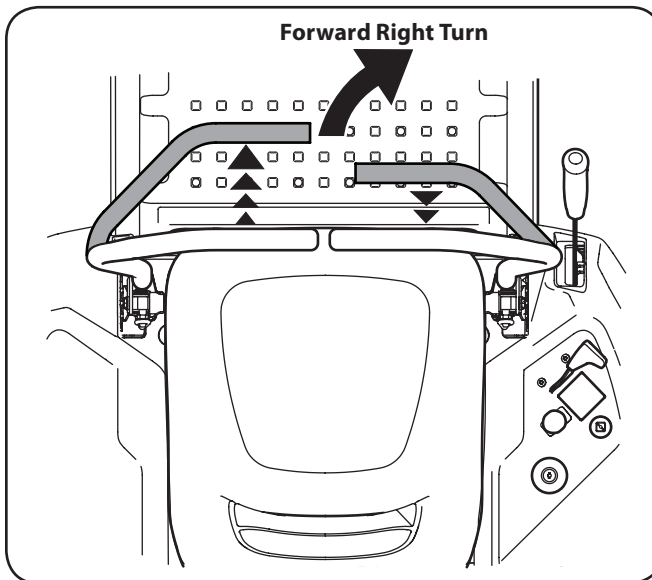

Figure 5-5
2. To turn to the right, move the right drive control lever rearward of the left lever. See Fig. 5-5.